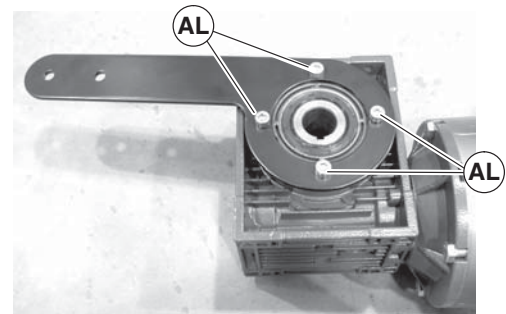

Figure 15
2. If required, change gearmotor position by removing four (4) screws (Figure 15, item AL). Rotate gearmotor mounting plate to other position and replace screws (AL). Tighten to 200 in-lb (22.5 Nm).